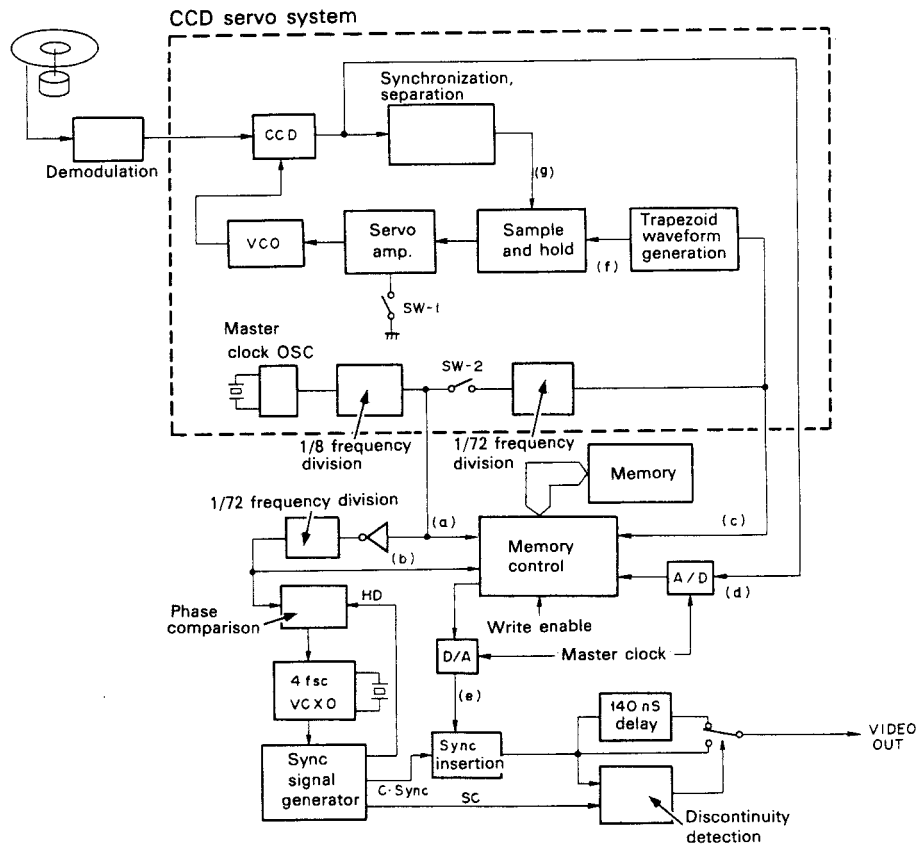
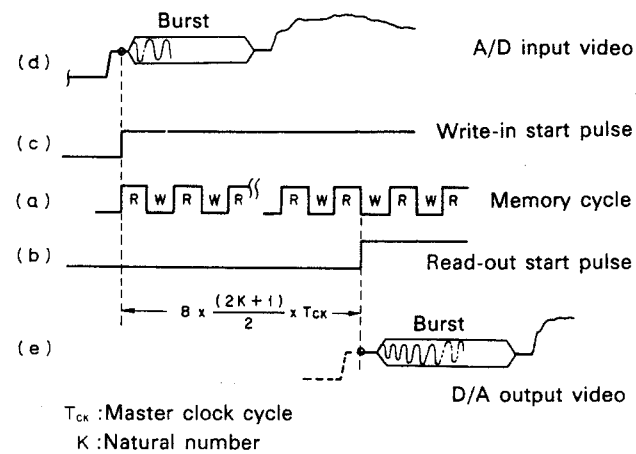

Fig. 2-1-1
Fig. 2-1-3
2. The development of a digital video memory and independent memory control circuit that allows independent and simultaneous write-in and read-out. Fig. 2-1-1 provides a block diagram of the TBC section centered on the CCD and memory section.
In regard to the memory section, the master clock frequency is divided to fh by 1/72 and 1/8 frequency division counters in Fig. 2-1-1. The read-out phase of the sync signal generator is synchronized and at the same time, it functions as a memory write-in start pulse. Fig. 2-1-3 shows this timing.